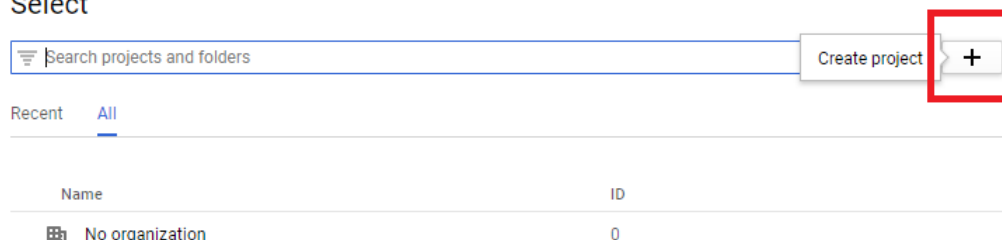

Figure 159 Google Developer Console Create Project Prompt
- 3 In the new window, click the + sign to *Create project*. (Figure 159).